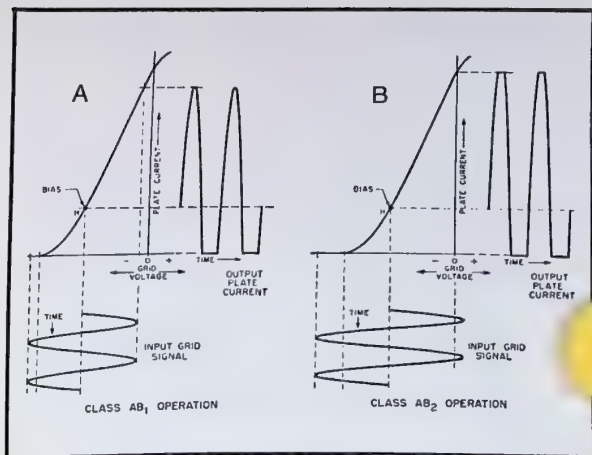

Fig. 11-8. Class AB amplifier characteristics.
Class AB1 operation is shown in sketch A of Fig. 11-8. The operating point (H) is located between plate current cutoff and the
Class  $AB_2$  operation is illustrated in sketch B of Fig. 11-8, with the same operating point (H) as shown in sketch A. In class  $AB_2$  operation the peak value of grid signal exceeds the fixed bias of the tube. The positive peaks of input grid signal extend into the positive region of grid voltage. This causes grid current to flow. Just as in class  $AB_1$  operation, the negative input peaks make the grid go beyond the cutoff point.